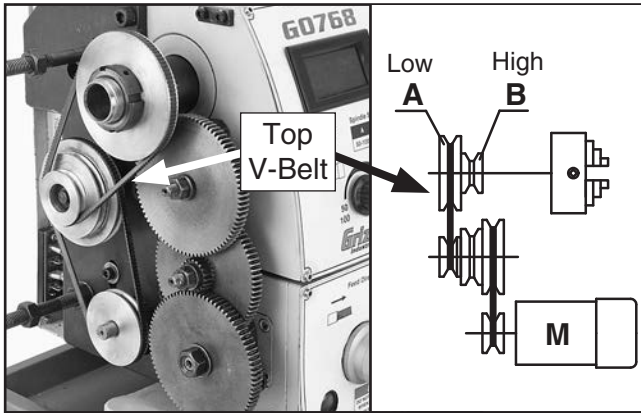

Figure 58. V-belt positioned in low speed range.
4. Move top V-belt to **A** position (see **Figure 58**) to select low speed range (50–1000 RPM).